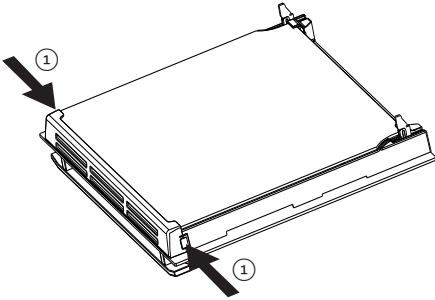

Fig. 11.15
- Touch the glass retainer tabs in on both sides of the door and remove the glass retainer (fig. 11.15, 11.16).